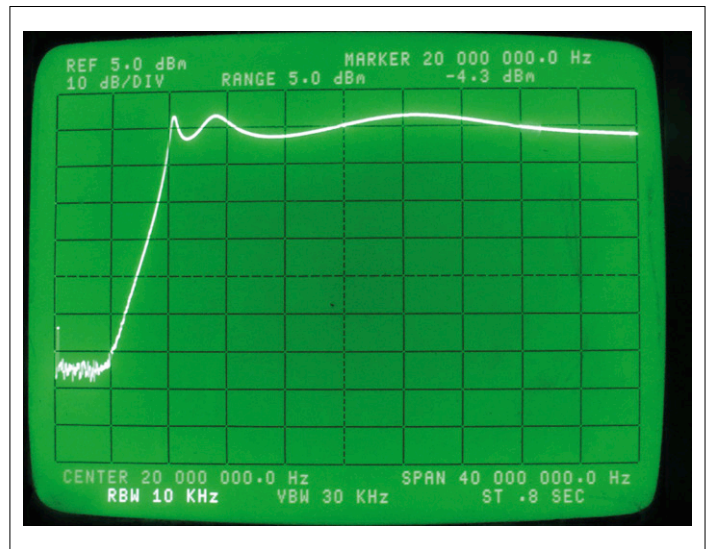
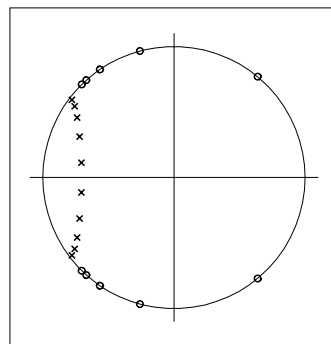

Figure 12. Measured response of a highpass filter.
Figure 11. Poles and zeros of a highpass filter.
**Figure 11** shows the pole and zero positions for a highpass filter. All the poles (corresponding to the passband of the filter) are now clustered around the higher frequencies, in the neighborhood of  $F_s/2$ . **Figure 12** shows the measured response of a Chebyshev highpass filter, illustrating the characteristic ripple in the passband.